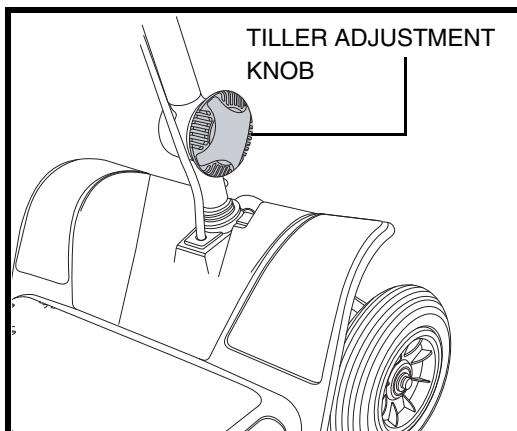

Figure 15. Tiller Adjustment Knob
1. While supporting the tiller, turn the tiller adjustment knob counterclockwise to loosen the tiller. See figure 15.